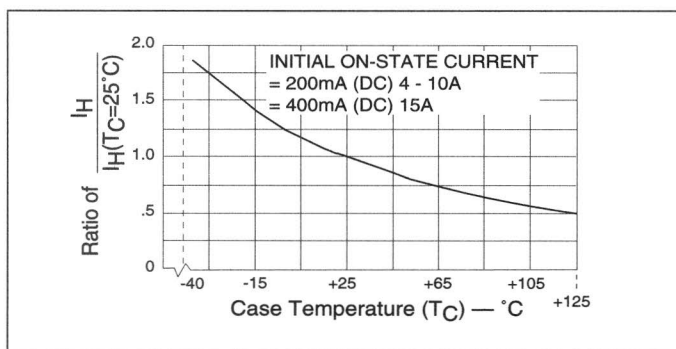

Figure 3.1 Normalized DC Holding Current vs Case Temperature
- See Figure 3.1 for I_H vs T_C .